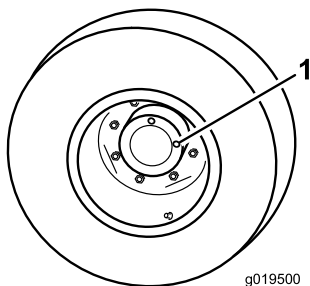

Figure 63
1. With machine on level surface, position the wheel so one check plug (Figure 63) is at the 12 o'clock position and the other is at 3 o'clock position.
1. Check plug (2)
2. Remove the plug at the 3 o'clock position (Figure 63). Oil level should be at the bottom of the check plug hole.